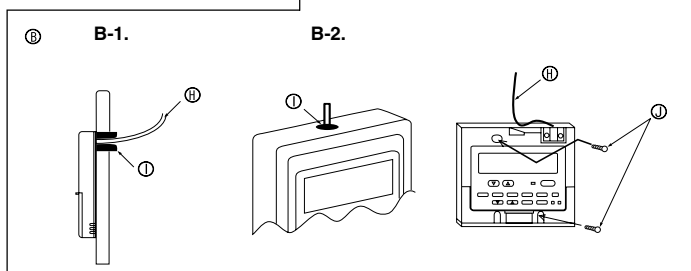

Fig. 6-3
- (A) Remote controller profile
- (B) Required clearances surrounding the remote controller
- (C) Installation pitch
(2) Seal the service entrance for the remote controller cord with putty to prevent possible invasion of dew drops, water, cockroaches or worms. (Fig. 6-3)
[Fig. 6-3]